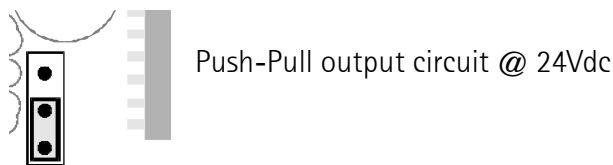

figure 11
- set the jumper as per fig. 11 or fig. 12 to the desired position